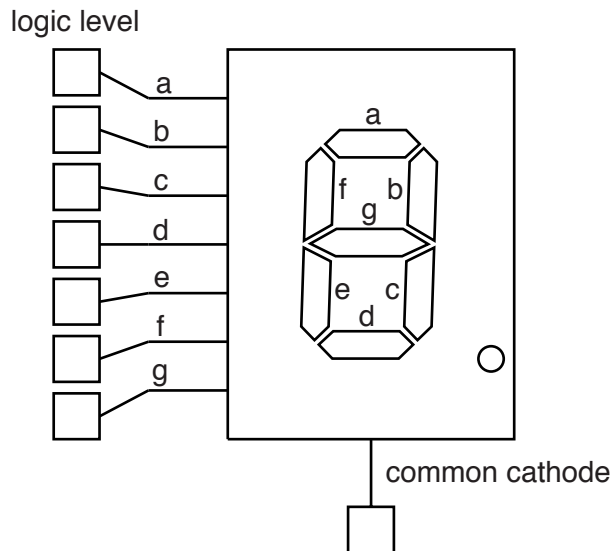

Fig. 17
(b) A common cathode seven segment display is shown in Fig. 17.
- (ii) Write a '0' or a '1' in each of the input boxes in Fig. 17 to show the logic level of each input when the display shows 5. [4]